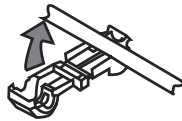

Figure 3
2. Place the wire in the open channel of the Wire Tap (016) supplied, fold the tap body and crimp with pliers. (See Fig. 3 and 4)